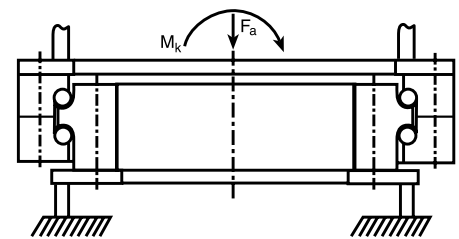

Figure 12: "Supported" axial load Bolt tension results from  $M_k$  only.
- a) The axial load  $F_a$  acts as compression load, i.e. the axial operating force  $F_a$  resulting from the axial load does not subject the bolts to tensile stress (compare Figures 12 and 13).